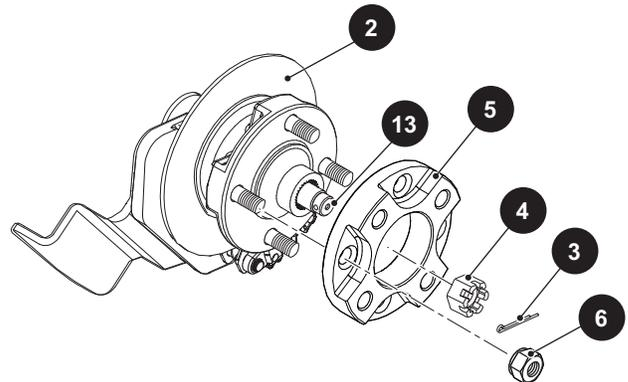

Fig. 2 Hub Assembly
1. Loosen the lug nuts (6) on the rear wheels.
4. Remove the wheel spacer (5) from the hub assembly (2) (Ref. Fig. 2).
5. Remove the cotter pin (3) and castellated nut (4) securing the hub (2) to rear axle assembly.
6. Pull the hub (2) away from the rear axle (13).